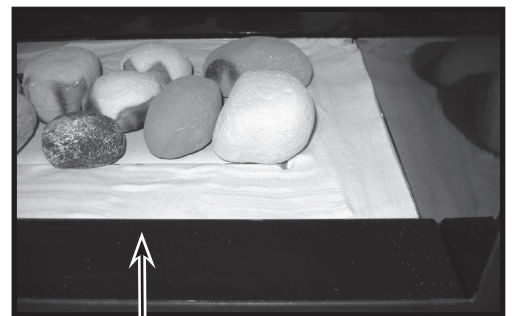

Figure 41: Front panel location.
5. Place the front panel on the front lip of the firebox, wide flange facing the front (Figure 41) (Proceed to step #7 if you are installing a TCWS.54NG03.C2 Black Diamond burner with this unit.)